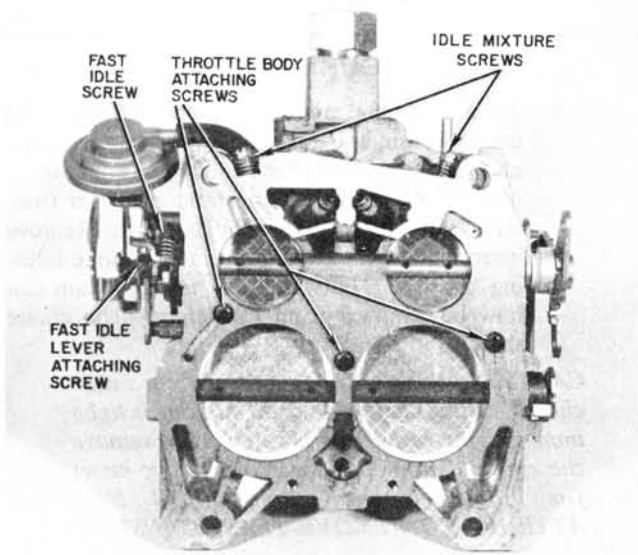

FIGURE 41
NOTE: Some early models use a center screw and lockwasher (See Figure 41) in throttle body.
THROTTLE BODY DISASSEMBLY – (Figure 41)
THROTTLE BODY ASSEMBLY – (Figure 41)
1. Install fast idle cam follower, fast idle lever on end of primary throttle shaft. Install torsion spring (where used) and retaining screw in end of shaft. Tighten securely. (See Figure 41, page 26)